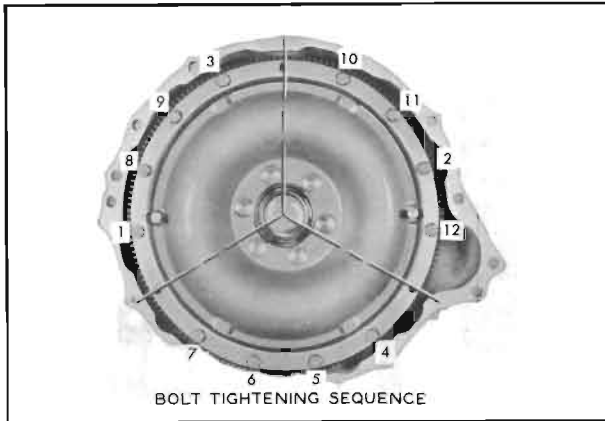

Figure 5-115—Bolt Tightening Sequence
20. Install bolts in all but the three driving bolt holes, insert the shank of a  $1\frac{1}{32}$ " drill through one bolt hole to align all holes, then tighten bolts to approximately 5 ft. lbs. torque in numerical sequence shown in Figure 5-115. Finally tighten bolts in same sequence to 25-30 ft. lbs. torque.